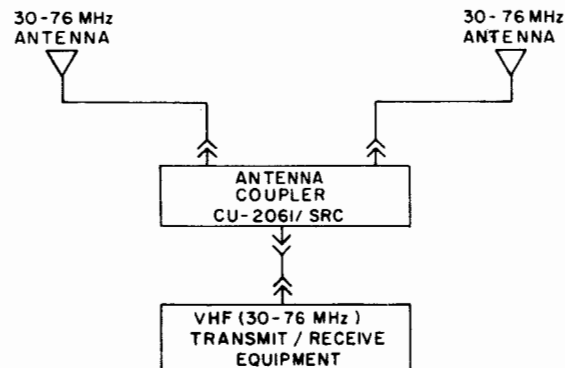

Figure 5-9 Antenna Coupler CU-2061/SRC Interconnection Diagram
c. INTERCONNECTION DIAGRAM - See Figure 5-9.